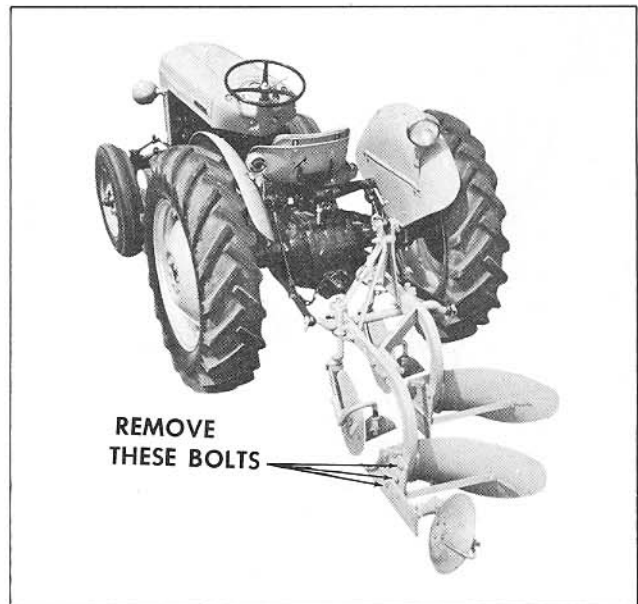

Fig. 60 Remove Bottom from Second Beam
The third bottom conversion kit may be easily added when the plow is attached to the tractor as outlined below. The third bottom kit parts are shown in a darker shade in the illustration, see Figs. 60 through 62.
1. Lower the plow on a level surface and remove the three bolts securing the rear bottom to the beam, see Fig. 60.